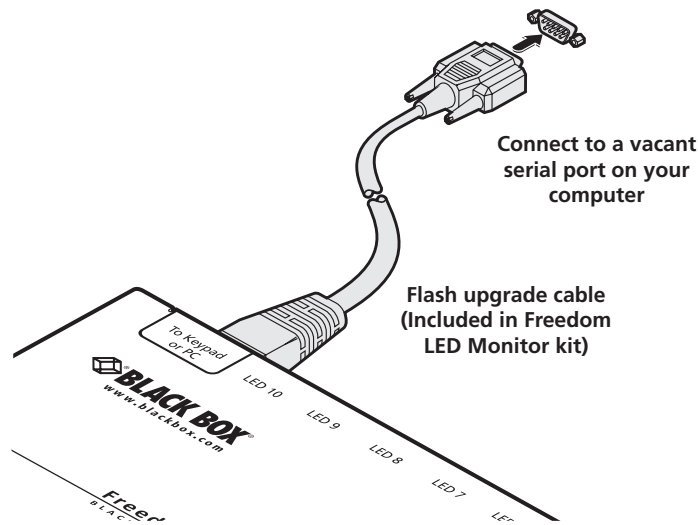

Figure 3-9. Linking the Freedom LED Monitor module to the serial port of a computer.
- You need to tell the Freedom LED Monitor which LED indicator to illuminate (and in which color) for each channel. To do this connect your computer to the **TO KEYPAD OR PC** port of the Freedom LED Monitor module (while it remains connected to the Freedom II switch). Please see the section 4.4 Configuring LED indicators. See Figure 3-9.